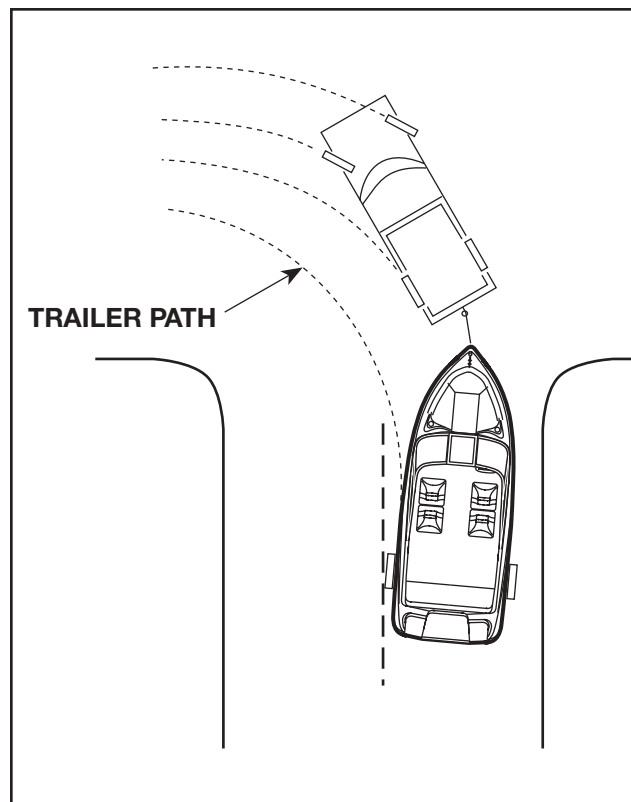

FIGURE 13.2 TRAILER PATH
6. Be aware that a turn for the trailer will be wider than a turn for the tow vehicle (**Figure 13.2**). When making a turn, be careful that your trailer does not strike another vehicle or object.